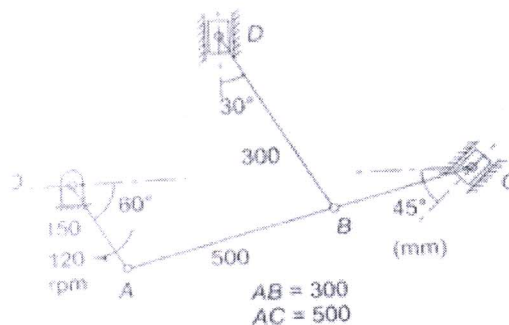

Figure: 2
- b) For the four-bar chain shown in Figure 2, find the linear velocities of sliders C and D , and the angular velocities of links AC and BD , using *Instantaneous Centre method*.